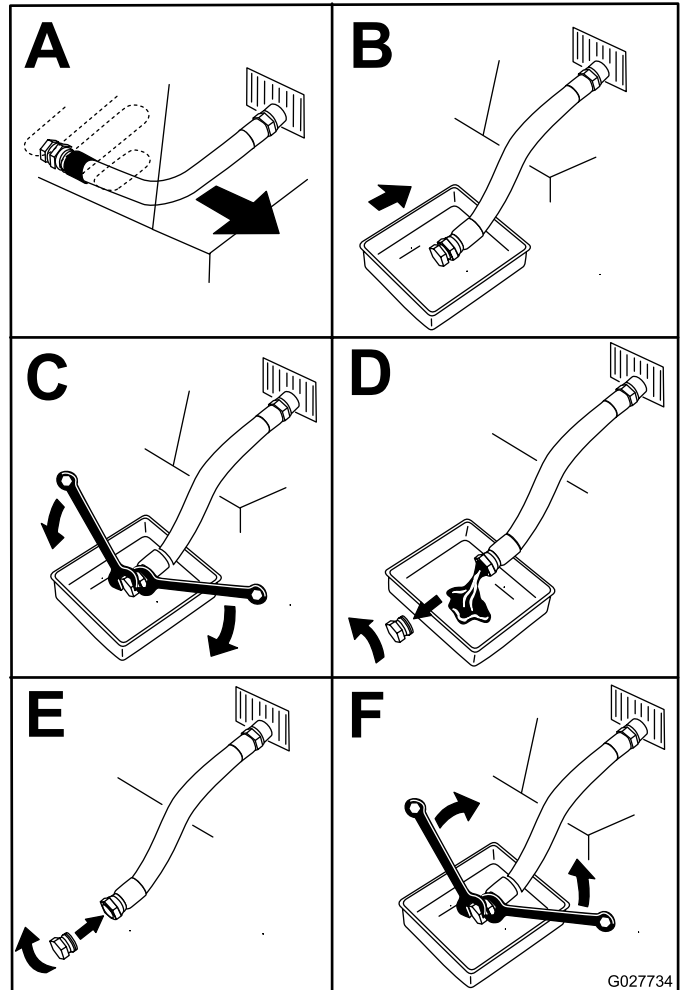

Figure 66
5. Drain the oil from the engine (Figure 66).